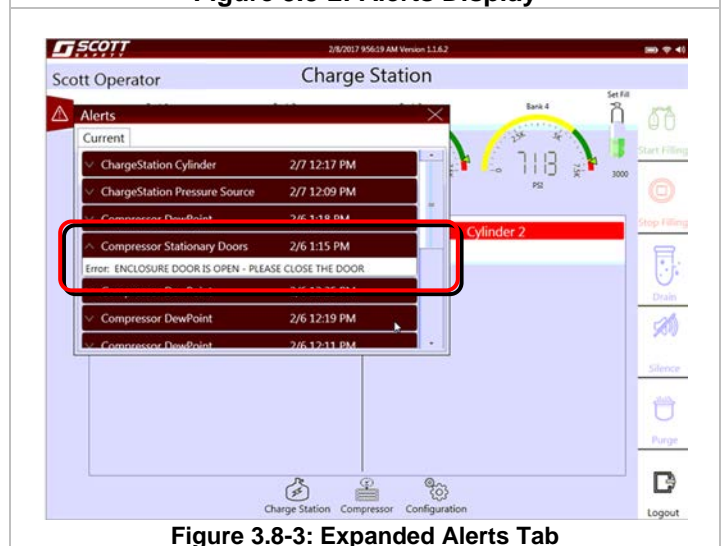

Figure 3.8-3: Expanded Alerts Tab
- Touching the Up/Down arrow to the left of the alert description will further expand the alert to display a detailed description of the alert. See Figure 3.8-3.